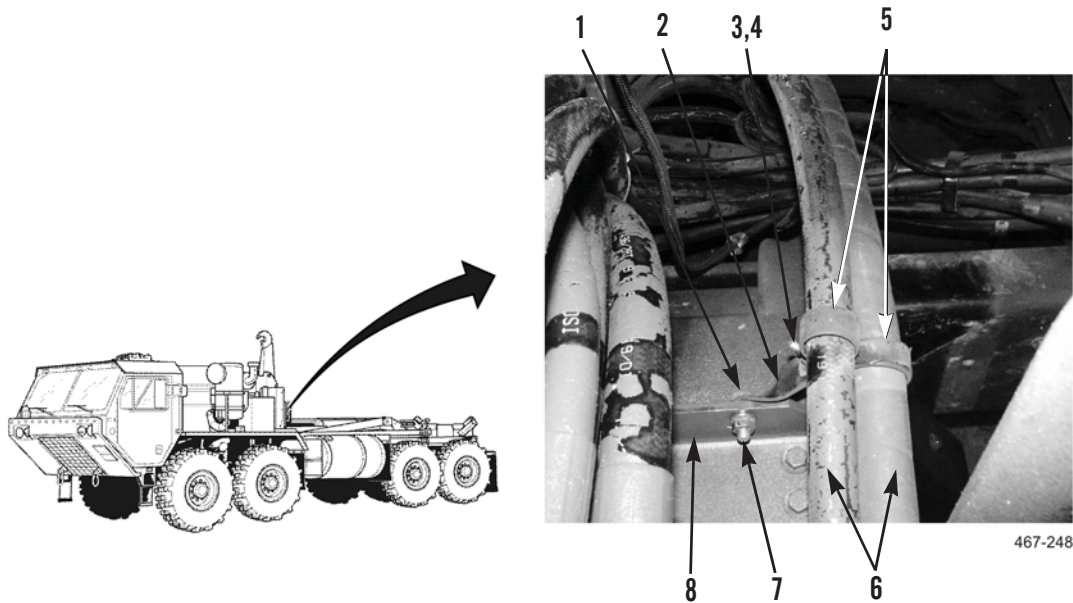

Figure 5. Hose Clamp Removal.
1. Remove nut (Figure 5, Item 7), bolt (Figure 5, Item 1), and strap (Figure 5, Item 2) from bracket (Figure 5, Item 8).
2. Remove nut (Figure 5, Item 3), bolt (Figure 5, Item 4), and two clamps (Figure 5, Item 5) from hoses (Figure 5, Item 6).